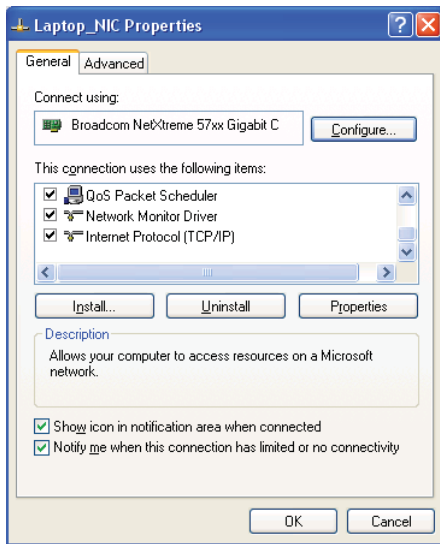

Fig. 2-13, Local Area Connection Properties Screen
6. You will see a dialog box much like Fig. 2-13; scroll down to the entry "Internet Protocol (TCP/IP)" and then click on the "Properties" button.